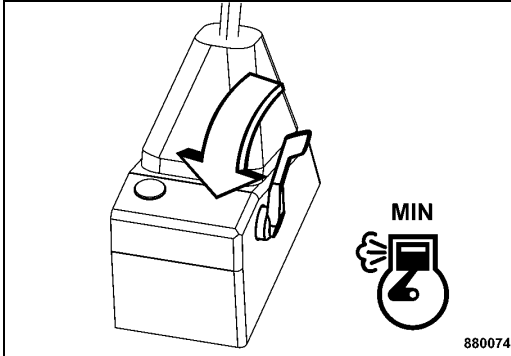

Fig. 70
- Set the throttle lever (Fig. 70) to position "MIN" (idle speed).